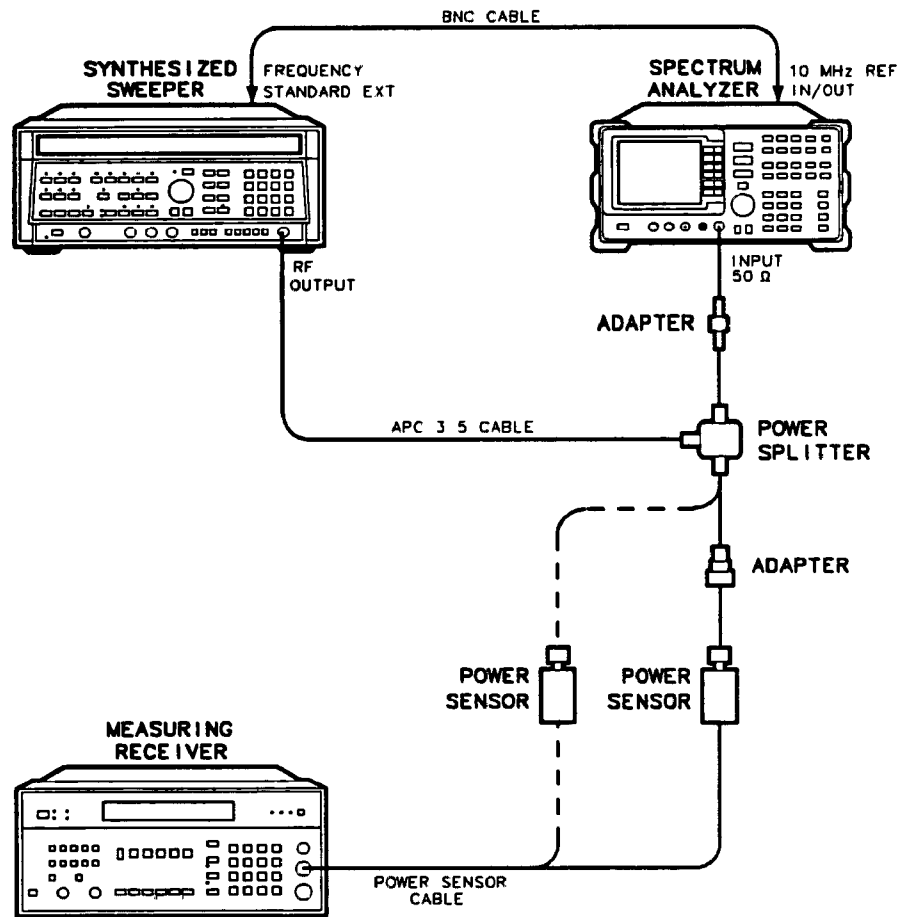

Figure 2-12. Frequency Response Adjustment Setup
1. Connect the equipment as shown in Figure 2-12. Do not connect the HP 8482A Power Sensor to the HP 11667B Power Splitter.